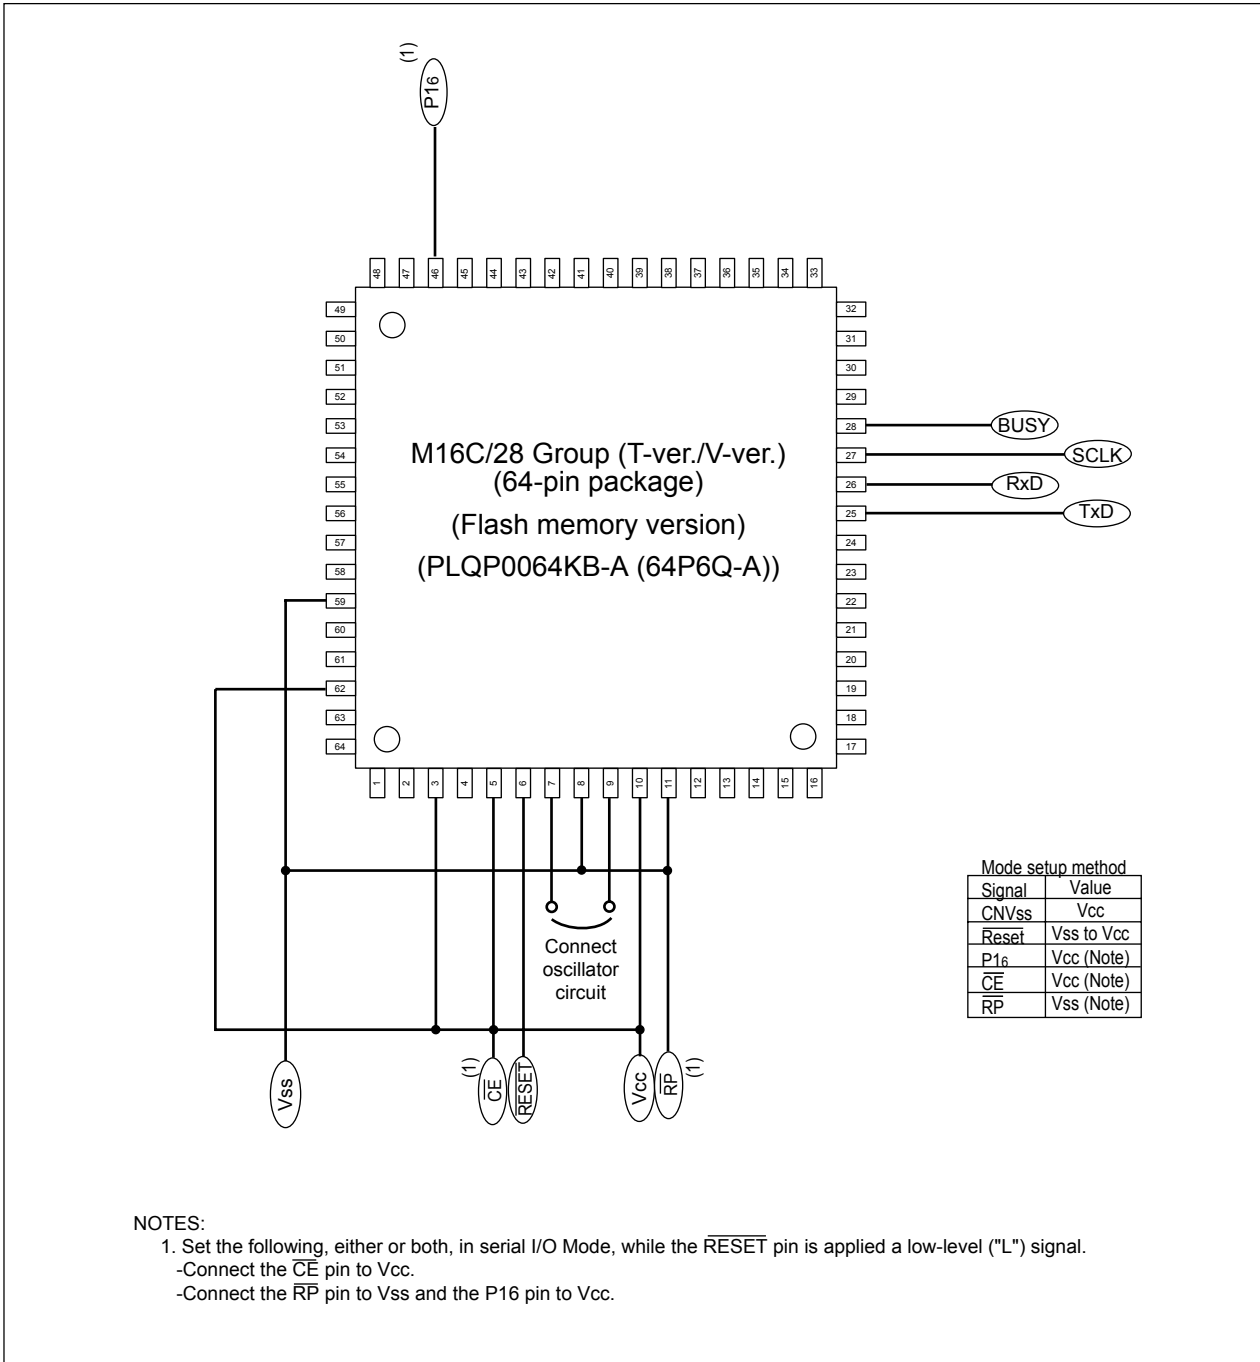

Figure 19.14 Pin Connections for Serial I/O Mode (1)
**Table 19.8** lists pin description (flash memory standard serial input/output mode). **Figures 19.14** and **19.15** show pin connections for standard serial input/output mode.